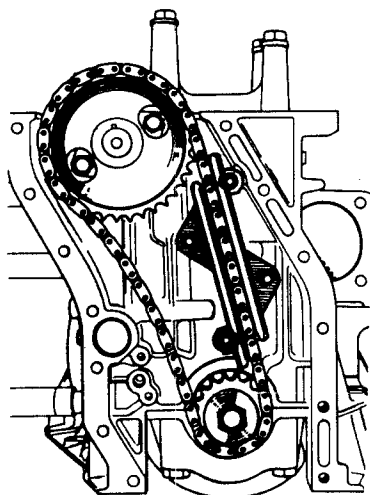

Fig.1.30 Location of timing chain guards
- 5 Refer to Fig.1.30 and unscrew and remove the crankshaft sprocket retaining bolt. If the crankshaft tends to rotate during this operation, use a 'slogger' type spanner. Remove the washer and thrust ring.